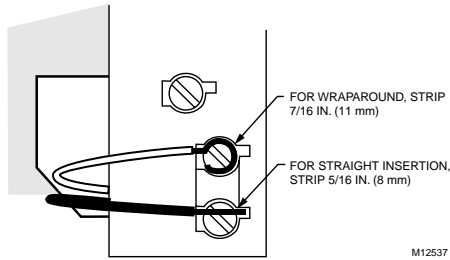

Fig. 7. CT500 methods for wiring connection.
- Loosen the terminal screws and slip each wire beneath its matching terminal. The shape of the terminals permit insertion of straight or wraparound connections. See Fig. 7. Tighten the terminals.